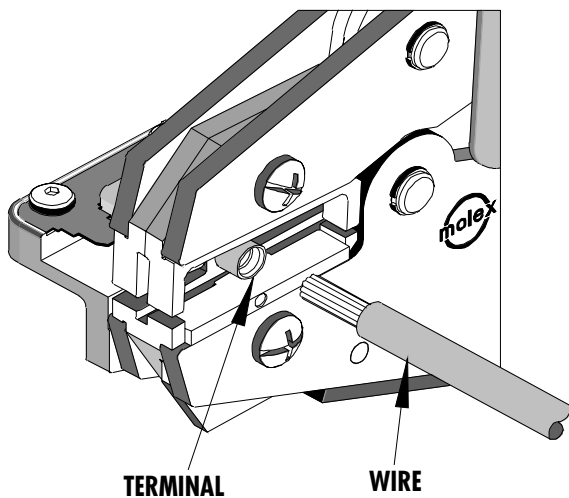

Figure 2
3. Partially close the tool to hold the terminal in place (See Figure 2).
4. Insert the properly stripped wire into the terminal barrel (See Figure 2 and 3). Cycle the tool.